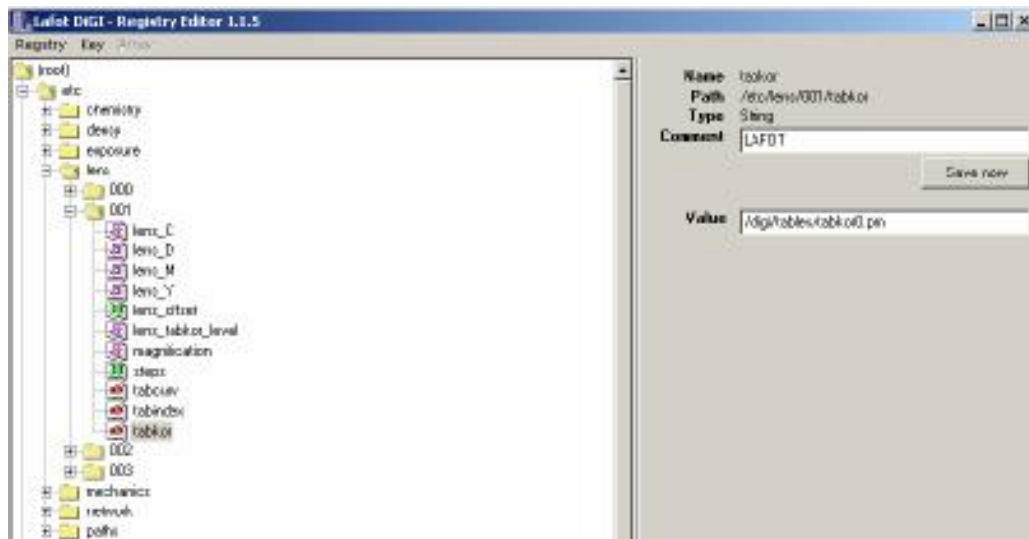

Fig 2.7.6
- In **Value** key in **tabkor0.prn** (Fig 2.7.6).